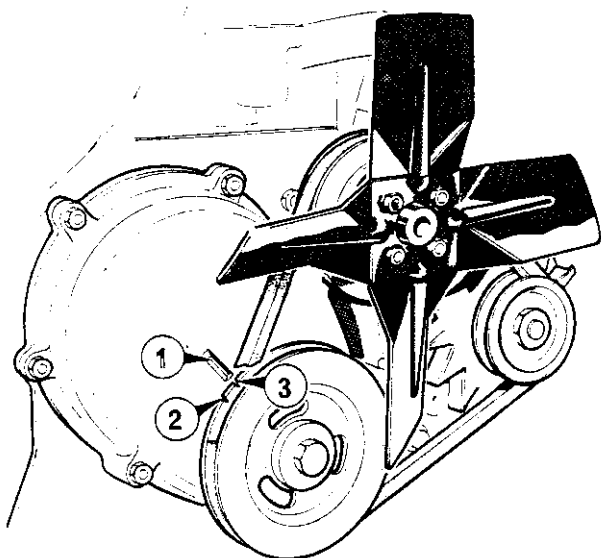

Figure 5 Timing marks
Incorrect ignition timing can cause rough running, poor idling, high fuel consumption and poor performance. It is therefore important that the timing should be correctly set. In order to facilitate the timing, two marks are stamped on the crankshaft pulley indicating TDC and 10° crankshaft rotation. (**Figure 5**) The TDC mark aligned with the pointer on the timing chain cover indicates that pistons 1 & 4 are at top dead centre. All Kittens should be timed at 10° BTDC. Two methods for obtaining correct ignition timing are described as follows:-
1. Rotate the crankshaft in a clockwise direction until the 10° pulley mark is aligned with the pointer on the timing cover (**Figure 5**).